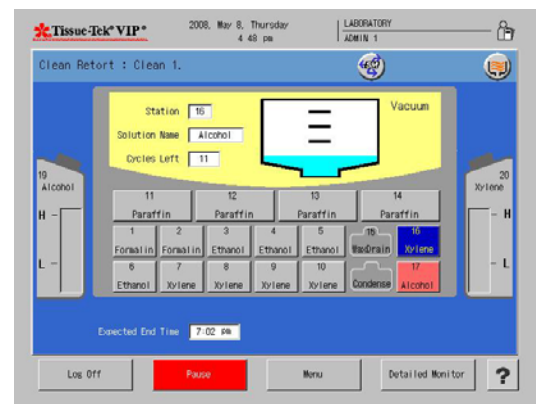

Figure 4-M
- The Clean Retort Overview Monitor Screen displays (Figure 4-M).